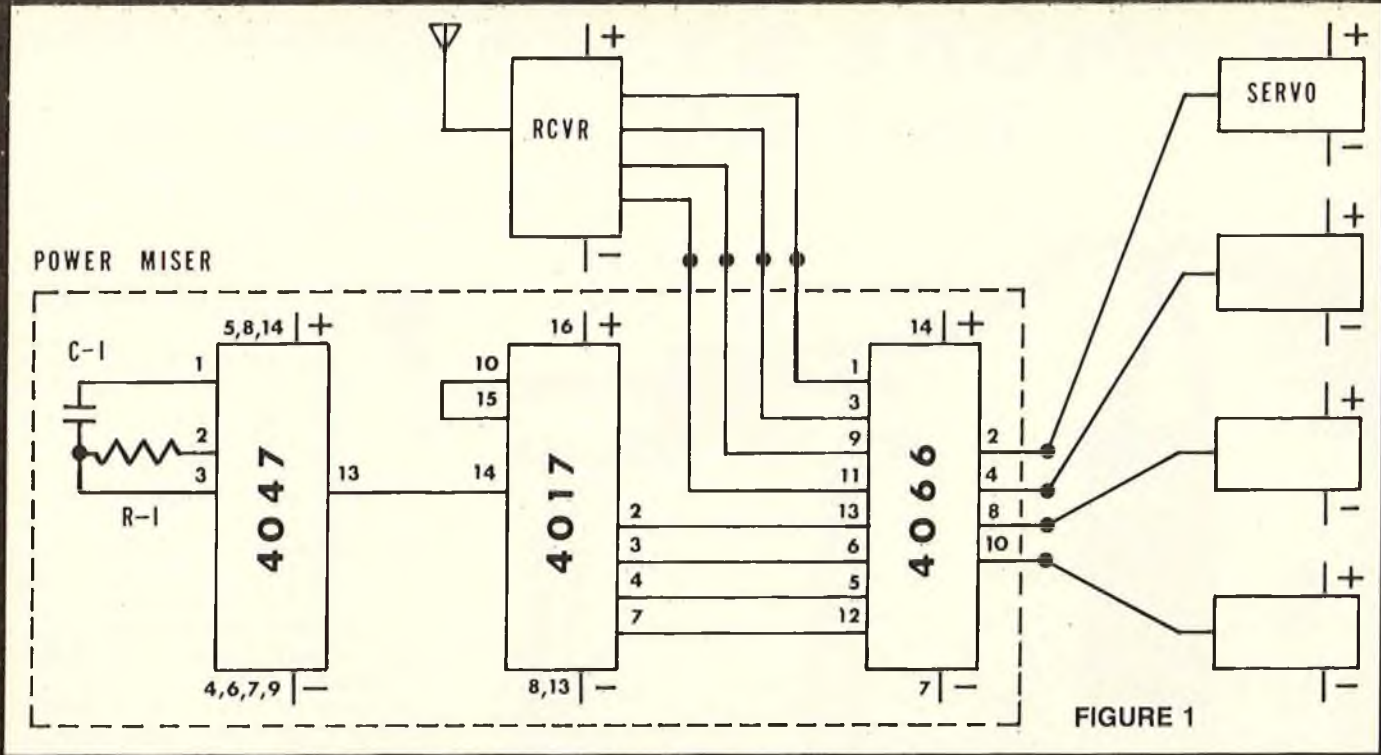
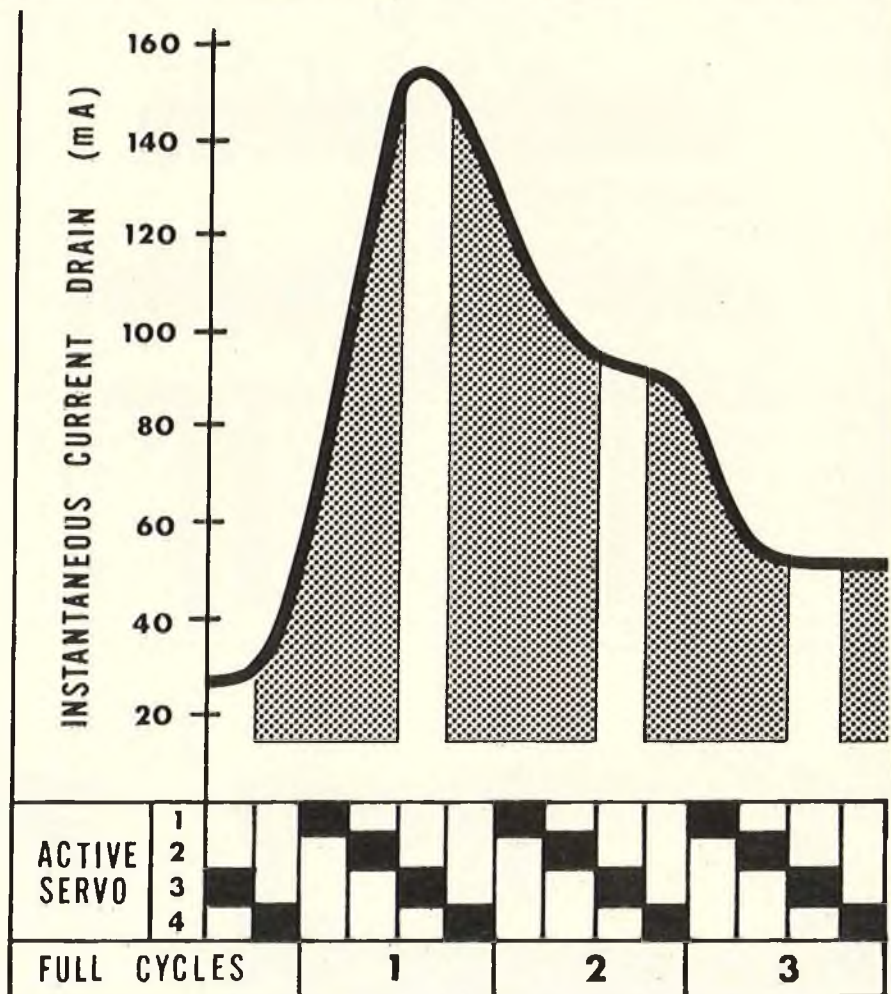
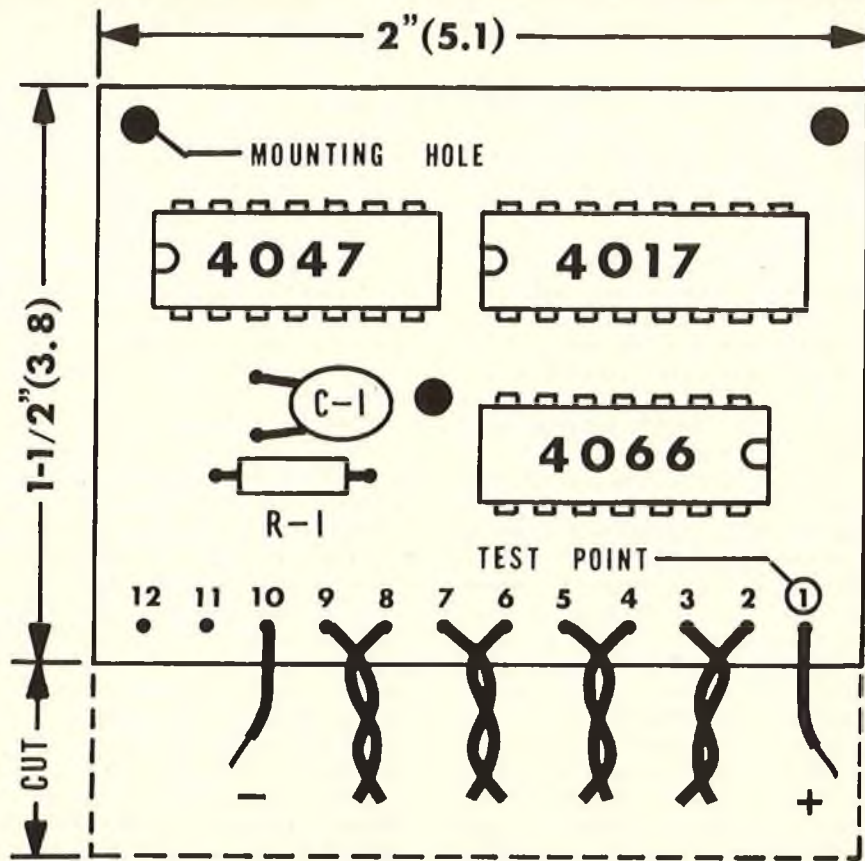
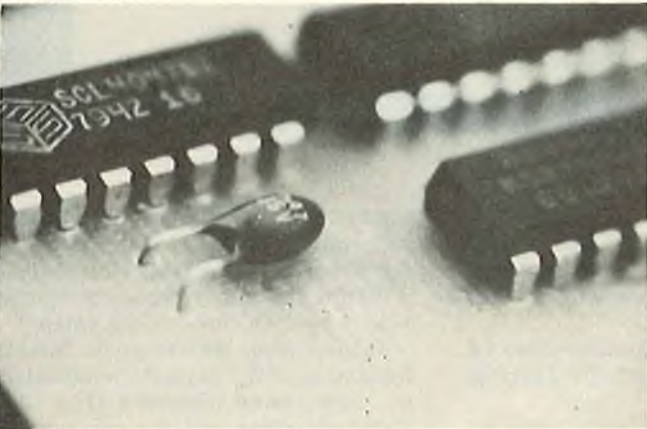

FIGURE 1
FIGURE 2
FIGURE 3
FIGURE 7
Flight of radio controlled (RC) gliders is limited by the available on-board power source. This article describes construction and testing of Power Miser, a solid state device that operates like a clocked rotary switch installed between the radio frequency (RF) receiver and servos (See Figure 1 and photographs). Parts count is limited to 6 components, including the printed circuit (PC) board. Power Miser switches a signal window from 1 servo to another in rapid succession, at a frequency of about 10 Hertz (Hz). Full power is available to one servo at a time and other servos continue to operate under no-load conditions (see Figure 2). The advantages of retaining full maneuverability and reducing battery drain occur at the expense of servo response speed. A 225 milliampere hour (mAh) battery pack weighs 1.6 oz (45 g); 450 mAh battery packs weigh 2.8 oz (79 g) and Power Miser weighs only 0.4 oz (11 g). This device, with either battery pack, represents a small increase in power package weight in return for 38% increase in operating time for a particular installation.
Required components are indicated on the parts list. Collect the components and necessary tools/equipment before starting construction. Refer to circuit diagram (Fig. 1) and component layout (Fig. 3). Read entire instruction set before starting work. A photostat transparency is used to generate the required trace image on a
7. Use hacksaw to cut 1/2" (1.3 cm) off edge connector strip (see Fig. 3 and photographs). Use block and #100 grit sandpaper to smooth edges of PC board. Round corners. Sand component side until no shiny spots remain.
8. Drill all holes from trace side through PC board. Etched dots serve to locate centers. Tap each dot with centerpunch to provide seating for drill point. Refer to component layout (Fig. 3). Drill 1/8" (0.3 cm) mounting holes in 3 places. Use 0.043" (0.1 cm), #57 drill to perforate component pads. Lightly sand component side of board to remove drilling debris from hole edges.
10. Proceed with circuit card assembly. Install integrated circuit (IC) 4047, Monostable/Astable Multivibrator, at position indicated on component layout (Fig. 3).
11. Install IC 4017, Decade Counter, at position indicated in Fig. 3. Refer to note in step 10. Check for proper seating of package and solder 4 corner pins to pads. Recheck
12. Install IC 4066, Quad Bilateral Switch, at position indicated in Fig. 3. Orientation notch faces opposite direction from other ICs. Check for proper seating of package and solder 4 corner pins to pads. Recheck alignment of IC package on board.
14. Solder capacitor C-1 (0.47 μ f, 35V) at position indicated in Fig. 3. Bend leads so capacitor lies flat against PC board. Use one drop of instant glue (Hot Stuff) to anchor capacitor on PC board (see Fig. 7).
2. Connect potentiometer, without changing setting, to test points TP-11 and TP-12. Test points are identified in Table I. Connect positive (+) red wire from 4.8V, 225 mAh battery pack to TP-1. Connect negative (-) black wire from battery pack to TP-10. Refer to component layout (Fig. 3).
4. Disconnect battery pack. Install fixed resistor R-1 at position indicated on component layout (Fig. 3). Carefully solder leads to each pad and cut off excess lead material. Retest system with battery connected. Construction of the Power Miser circuit card assembly is now complete.
It is worthwhile to compare experimental test results of 21 or 38 percent with the predicted 75% power savings (Fig. 2). These differences occur because of system losses (between switch 4066 input and output) to each servo, combined with the chatter effect. Chatter occurs because of mismatching between receiver pulse frequency and Power Miser clock frequency. Prevention of chatter would require use of receiver clock pulses and additional circuitry or internal circuit modifications. In separate tests, 4 lead weights, a total of 16 oz. (454 g) were attached to 1 servo actuator disc by Dacron line and the transmitter stick was cycled several times to be certain the servo still had sufficient torque with Power Miser in circuit. KPS-18 servos are remarkable for their size; they passed the test with flying colors, and torque to spare.